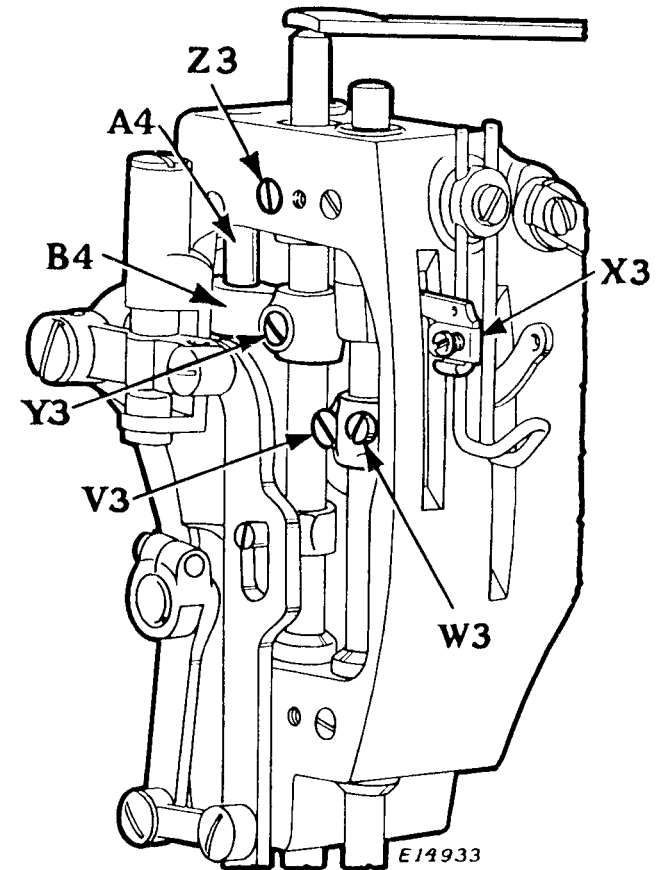

Fig. 14. Setting Needle Bar, and Other Adjustments
Loosen screw (V3, Fig. 14) in the needle bar connecting stud, and move the needle bar up or down to the required position, then securely tighten the screw (V3).
Needle thread take-up (X3, Fig. 14, page 21) is usually set with the bottom of the take-up flush with the bottom of its holder.
Remove face plate and needles, then unscrew the needle clamp from the needle bar. Loosen set screw (W3, Fig. 14, page 21) and
remove thread take-up (X3, Fig. 14). Loosen screw (V3, Fig. 14) and remove needle bar from top of machine.
Remove the presser foot and screw, then loosen screw (Y3, Fig. 14) and remove presser bar from top of machine. Loosen screw (Z3, Fig.
14) and remove presser bar guide (A4, Fig. 14) and presser bar lifting bracket (B4, Fig. 14). Remove needle bar connecting link. Also remove the foot lifting lever. Remove cap (P4, Fig. 19) and screw and washer (O4, Fig. 19) at rear end of the rock shaft. Remove round cover plate at rear side of machine arm, carefully saving the gasket. Loosen the two screws (F4, Fig. 19) in the rock shaft crank and, with the connecting rod at midway position, withdraw rock shaft from the needle bar end of the machine.